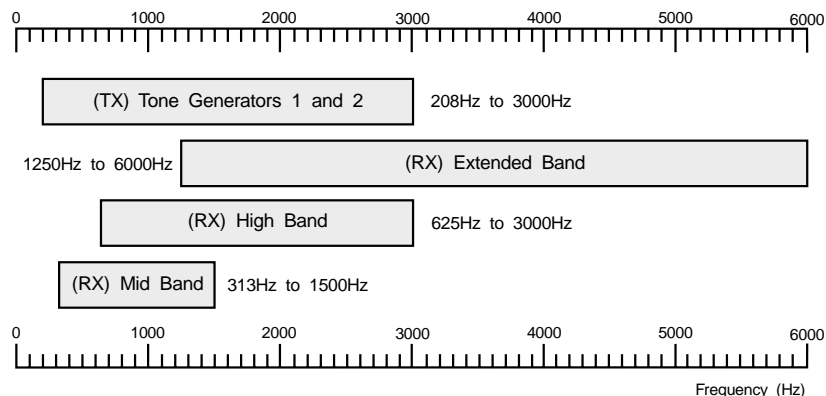

Figure 4: MX803A Frequencies
- Band Selection:** Bits 2 and 3 set the required frequency range. See Figure 4.